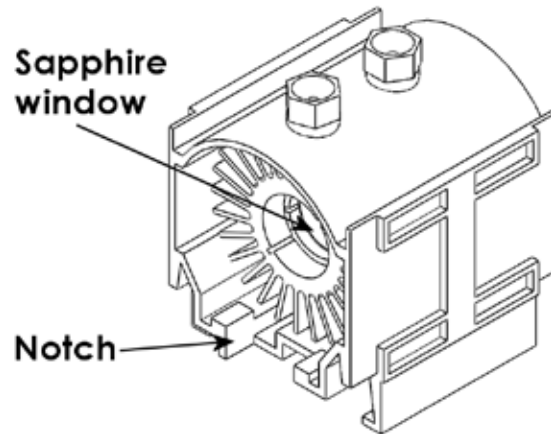

Figure 3-6. Position of the bulb/heat sink assembly in the blue housing.
4. Insert the heat sink/bulb assembly into the blue housing. Make sure the SAPPHIRE WINDOW side (output) is the same side as the notch in the blue housing (Figure 3-6). Screw in the terminals (the one located closer to the sapphire window has smaller threads than the other) slightly more than hand tight to complete the bulb installation in the blue housing.